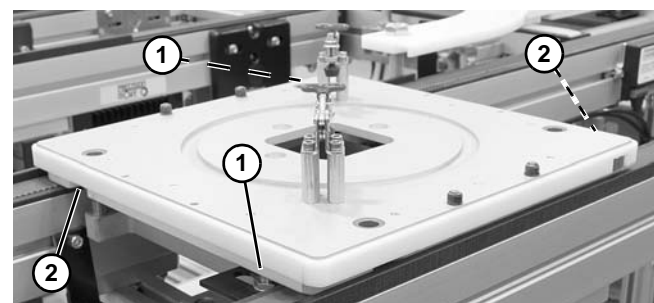

Figure 69
- Two bottom flags (**Figure 69, item 1**) can be used for sensing.
- Stop only has to be released long enough to clear pallet skirt that was stopped. Notches (**Figure 69, item 2**) in skirt allow stop to be reset before pallet clears stop area.